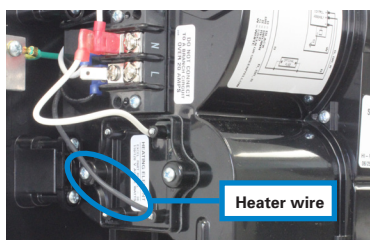
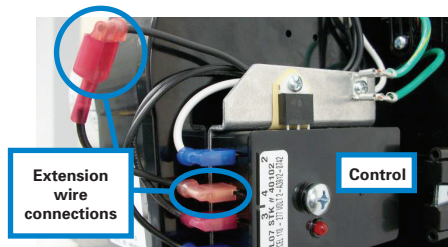

Figure 2A
Figure 2B
**1.** Find and disconnect the heater wire from the control assembly (connected in terminal position labeled "4" on the sticker). The heater wire is black, red or brown depending on dryer voltage and can be traced back to the heater (**Figure 2A**). Attach the heater extension wire (E) to the wire by inserting the female flag terminal into the male connector on the extension wire. Connect the other end of the extension wire back to the Control (**Figure 2B**).